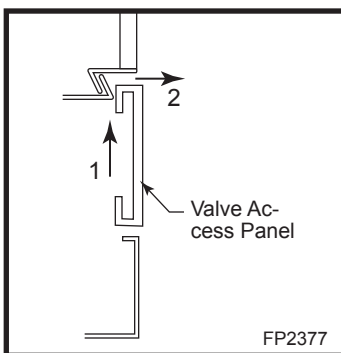

Fig. 61 Remove lower panel.
The valve access panel is removed by lifting the panel vertically and pulling it away from the appliance. (Fig. 61)
3. Remove the lower panel door. (Fig. 61)